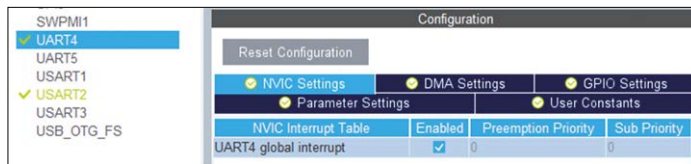

Figure 11.30: Configuring NVIC Settings.
- Click the 'NVIC Settings' tab and enable UART4 global interrupt (Figure 11.30).